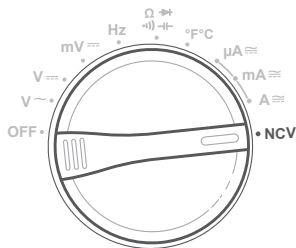

Figure 10.1
1. Turn the rotary dial to the **NCV** position. [Figure 10.1]